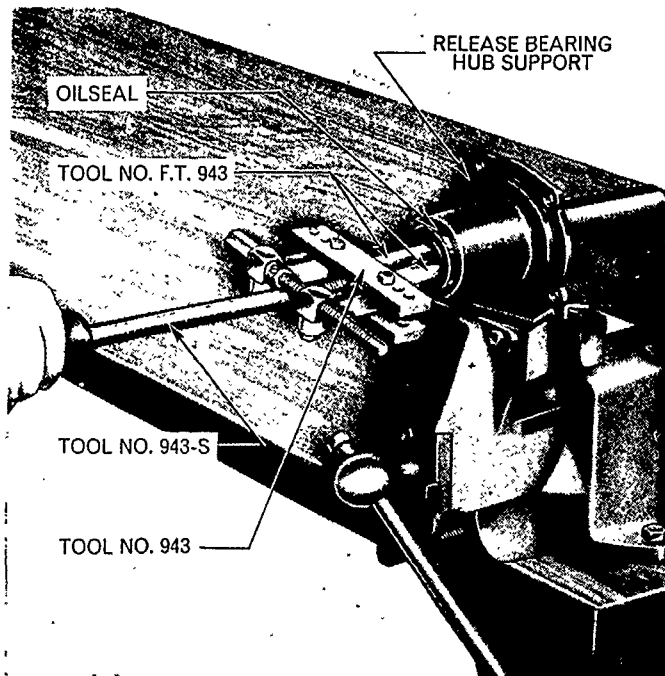

Figure 12
1. Inspect the main drive input shaft oil seal in the hub support for wear or damage. If necessary remove the seal using Tool Nos. 943, 943-S and FT.943, Figure 12.
2. Inspect the oil seal in the hub support and if worn or damaged remove the seal using Tools Nos. 943, 943-S and FT.943 in a similar manner to that shown in Figure 12.